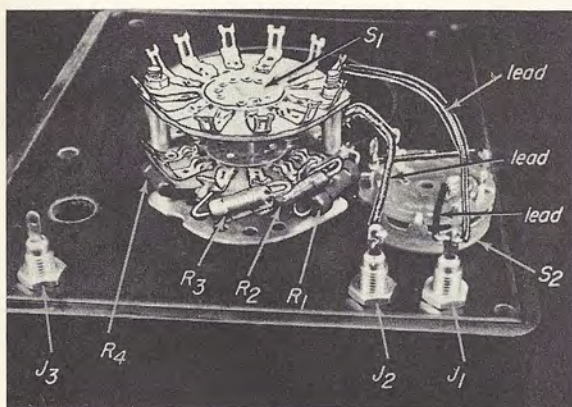

Fig. 3-4
1. Before mounting or wiring any parts, check the photograph that is shown in Fig. 3-4. It shows how the parts received in Kit 2 are assembled. See how they look when
Information. In the following steps, the actual wiring begins. At this point, it would be a good idea for you to check your soldering iron and connect it to your electric outlet so that it will be ready for use when you need it. While your soldering iron is heating, turn back to Fig. 3-4, and see the wiring that you are actually going to do in this lesson.
In the instructions that follow, you will find some that tell you to connect some part or lead to a particular terminal. This means that a good tight connection should be made *without soldering*. The reason for this is that, in wiring this meter, sometimes two, three, or even more leads are connected to the same terminal or lug. Therefore soldering is not done until the last connection is made.* For example, if you look at Fig. 3-4, you will find that two leads are connected to pin jack J_1 . So, when the connection is made between the rotor lug B of switch S_2 to the pin jack, it is done without soldering. Later, when rotor lug A of switch S_1 is connected to the same pin jack, both connections are soldered at the same time. In some cases, the instructions tell you to solder a lead or resistor to a certain lug. This means that you must first make a good tight connection and then solder it.